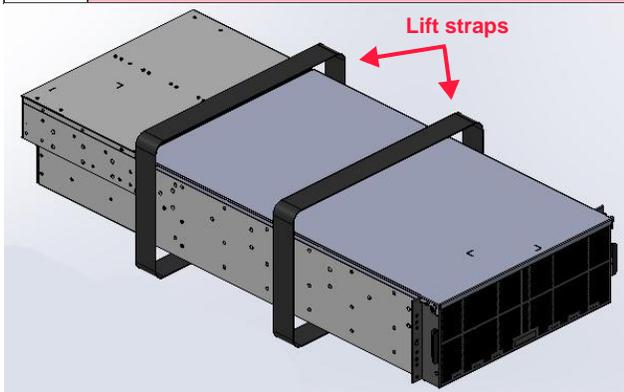

Figure 3.3 Removing the enclosure
- Remove the protective foam sheet and lift the enclosure from the packaging using the lift straps shown in Figure 3.3. Use of a forklift or lift table is recommended. Always obtain assistance lifting the enclosure from the container.